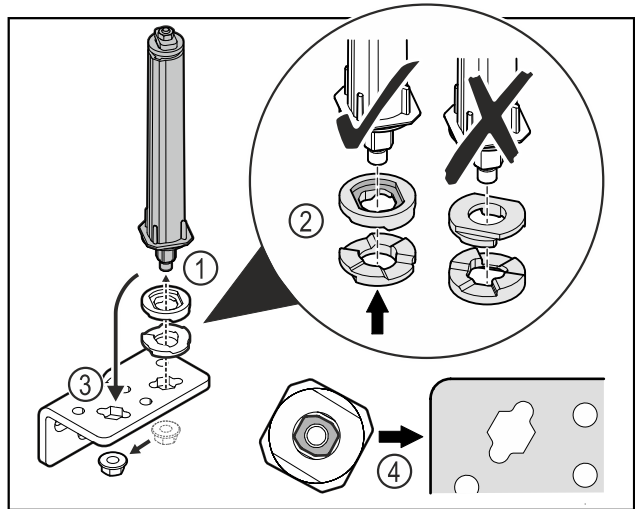

Fig. 38
- Loosen the nut and remove the door closing system Fig. 38 (1).
- Observe the correct alignment of the height adjustment washers Fig. 38 (2).
- Put the door closing system in the hinge and fix in place with the nut Fig. 38 (3).
- Observe the correct alignment of the door closing system when doing so Fig. 38 (4).